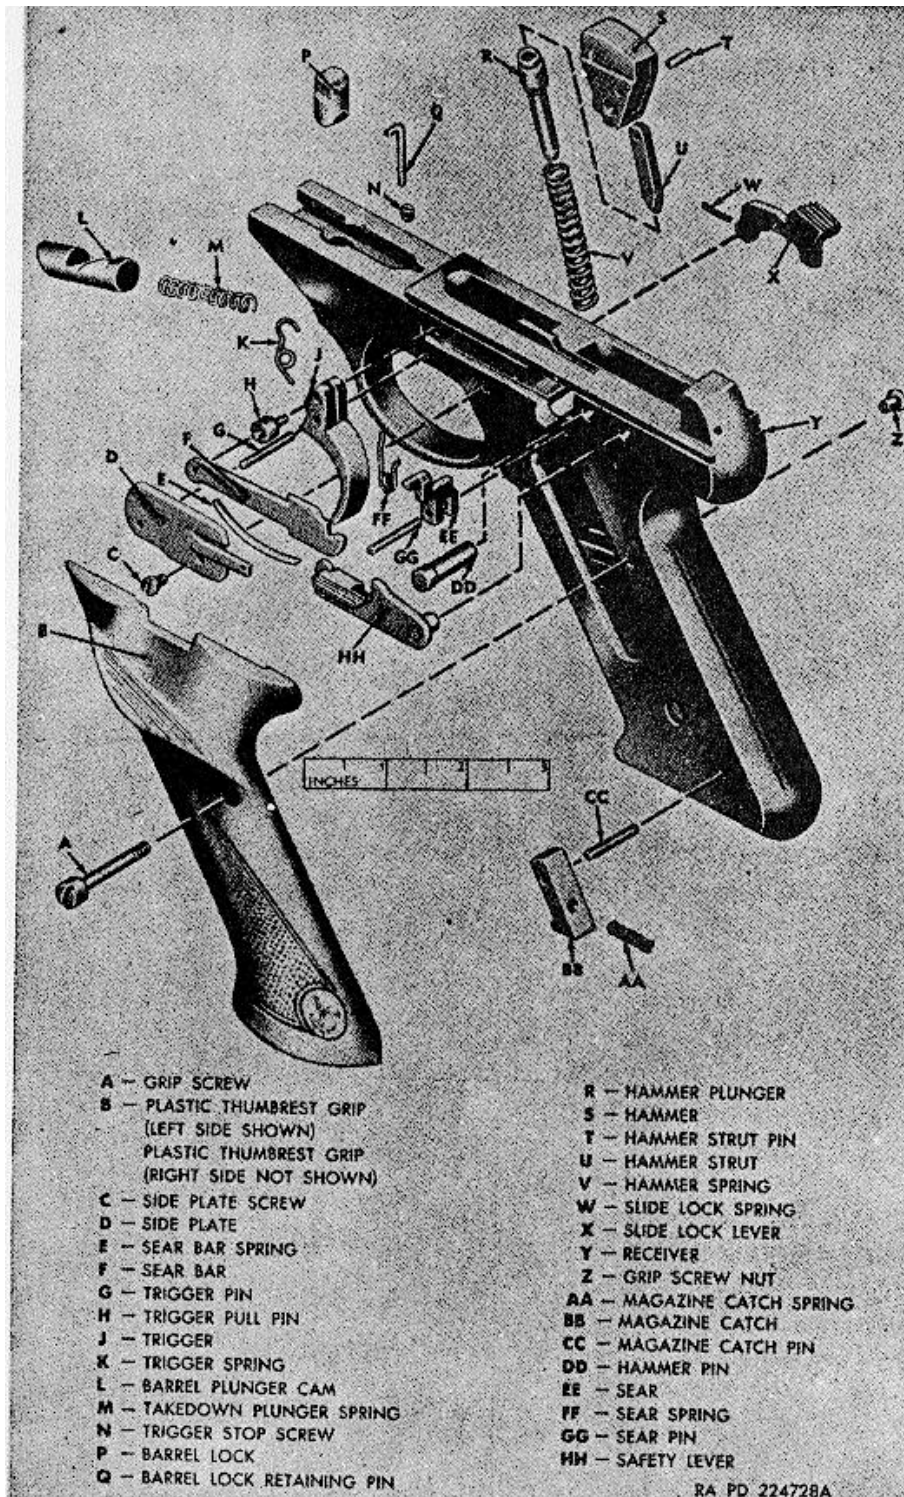

Figure 54. Frame group-exploded view (high standard).
**Note.** The key letters shown below in parentheses refer to figure 54.
*a. General.* The frame group (fig. 54) consists mainly of the grip group, barrel plunger group, and trigger group.
- (1) Unscrew the grip screw (A) from the grip screw nut (Z) and remove the two grips (B).
- (2) Drive out the magazine catch pin (CC). Remove magazine catch (BB) and the magazine catch spring (AA).
- (3) Remove the slide lock lever (X) and slide lock spring (W). Separate spring and lever only if replacement of either part is required.
- (4) Unscrew the side plate screw (C) and remove the side plate (D). Remove the safety lever (HH) from the frame. Pull the sear bar spring (E) from the slot in frame and remove the sear bar (F)